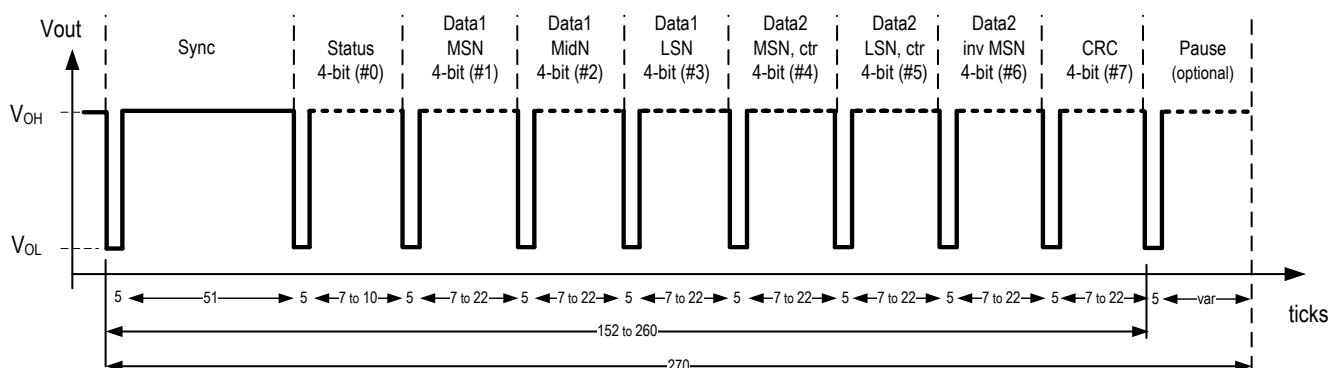

Figure 15. SENT Frame
1. 12-bit position data + 8-bit rolling counter ("ctr" in Figure 15) + inverted copy of Data1 MSN (nibble #1 in Figure 15) + cyclic redundancy check (CRC). In this option, the SENT frame length is between 152 and 260 ticks with a variable frame length and 270 ticks with a fixed frame length.